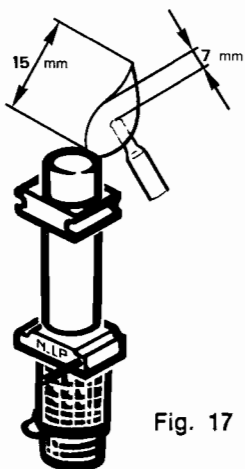

Fig. 17
7. Check the pilot flame fully envelops the thermocouple tip as shown (Fig. 17). Note that the recommended range of operating parameters for the thermocouple is : 5 mV mini to 8 mV.